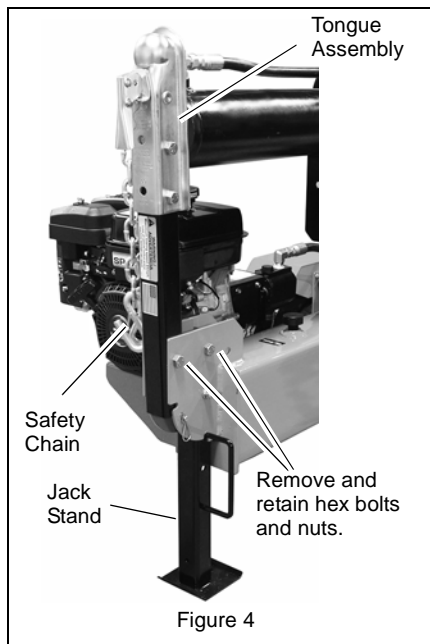

Figure 4
2. Remove rear hex bolt and nut from frame and retain (see figure 4).